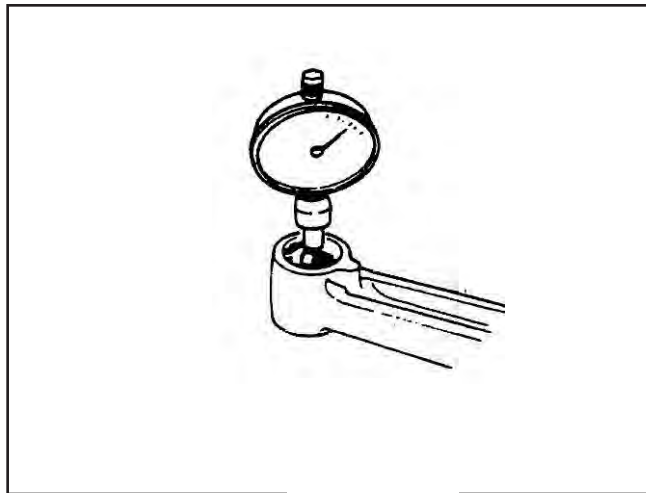

Figure 20
2. Wrist pin end inside diameter, measure and compare specifications (Figure 20).